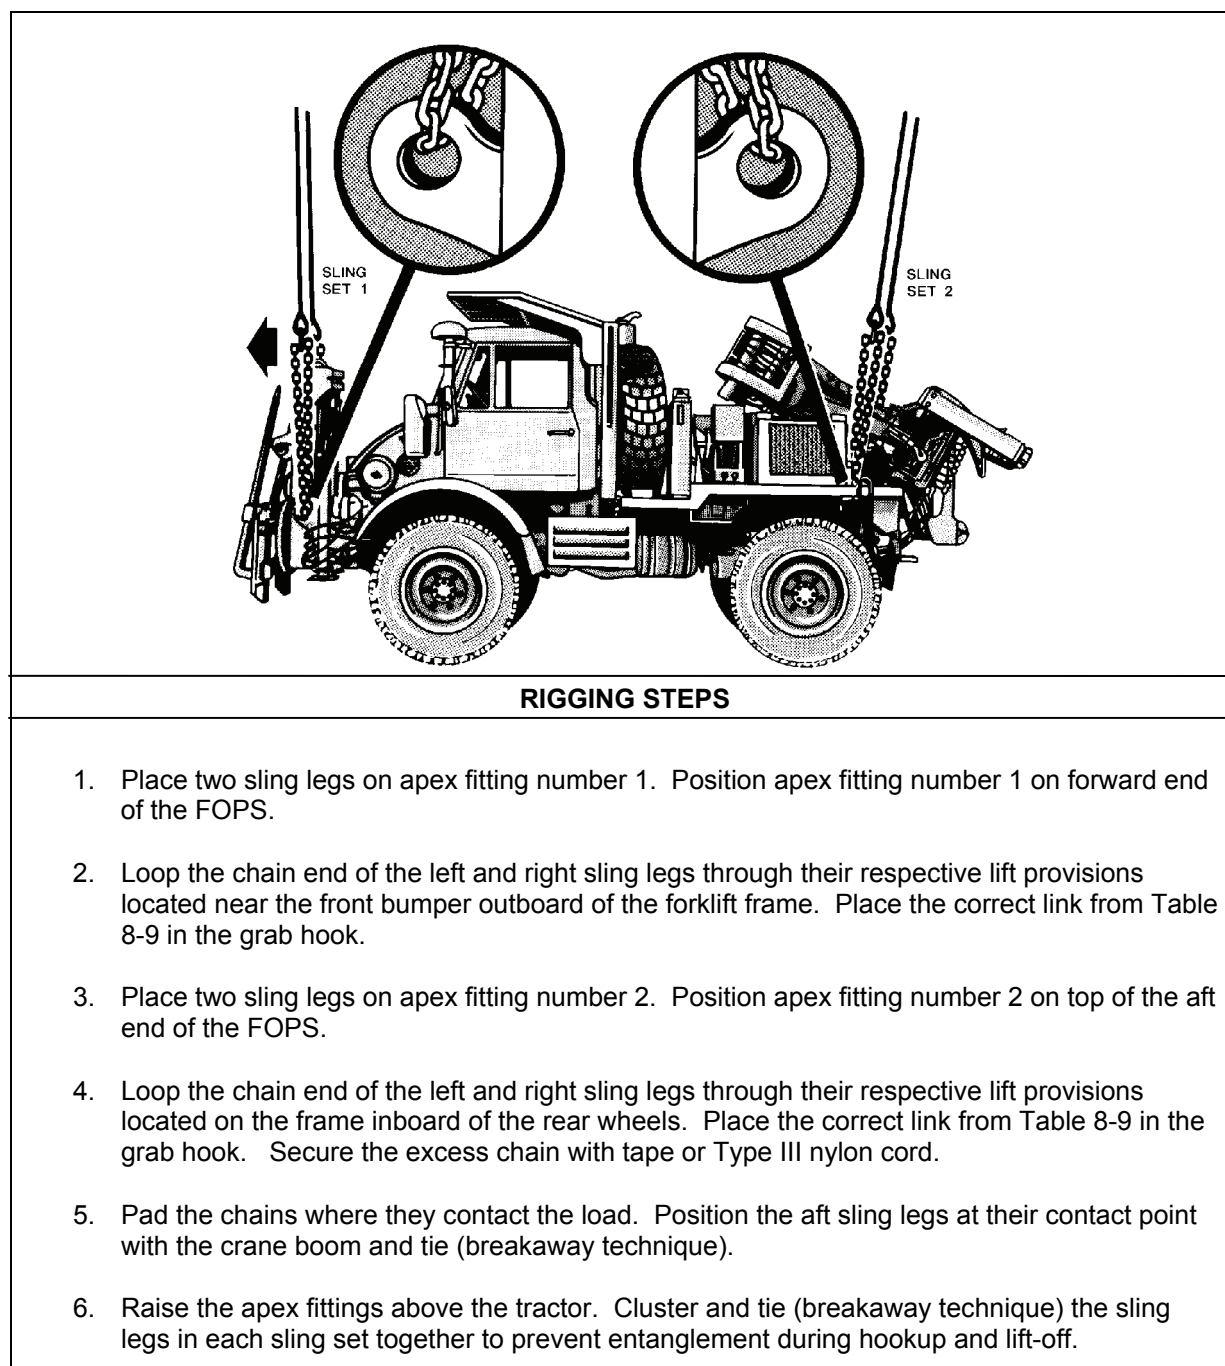

Figure 8-9. High Mobility Materiel Handler
- **Rigging.** Rig the load according to the steps in Figure 8-9.